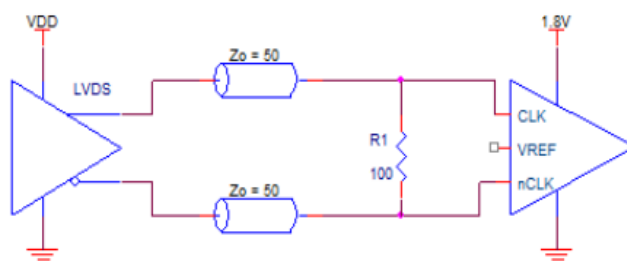
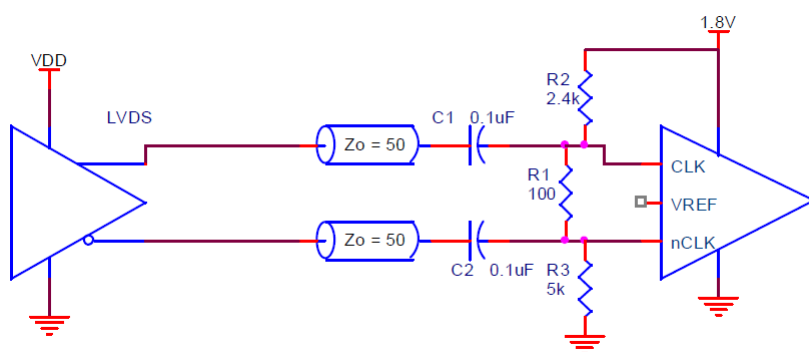
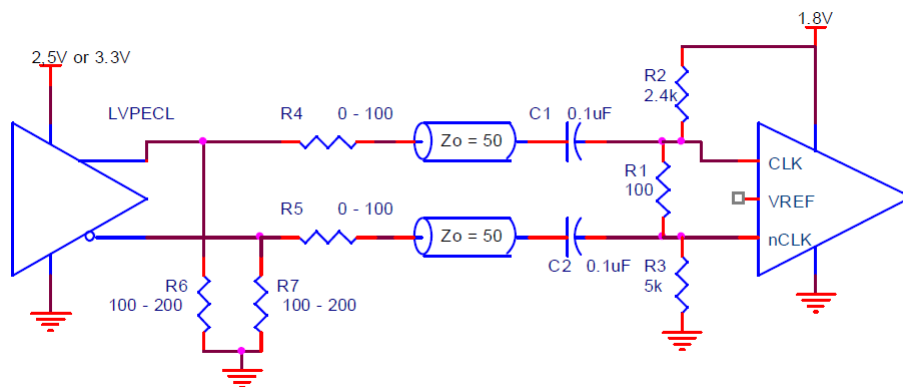

Figure 3. Differential Input Driven by an LVDS Driver – DC Coupling
Figure 4. Differential Input Driven by an LVDS Driver – AC Coupling
Figure 5. Differential Input Driven by an LVPECL Driver – AC Coupling
5. VREF[A:B] specification is applicable to the AC-coupled input interfaces shown in Figure 4 and Figure 5.
The CLK /nCLK accepts LVDS, LVPECL and other differential signals. The differential input signal must meet both the  $V_{PP}$  and  $V_{CMR}$  input requirements. Figure 3 to Figure 5 show interface examples for the CLK /nCLK input driven by the most common driver types. The input interfaces suggested here are examples only. If the driver is from another vendor, use their termination recommendation. Please consult with the vendor of the driver component to confirm the driver termination requirements.